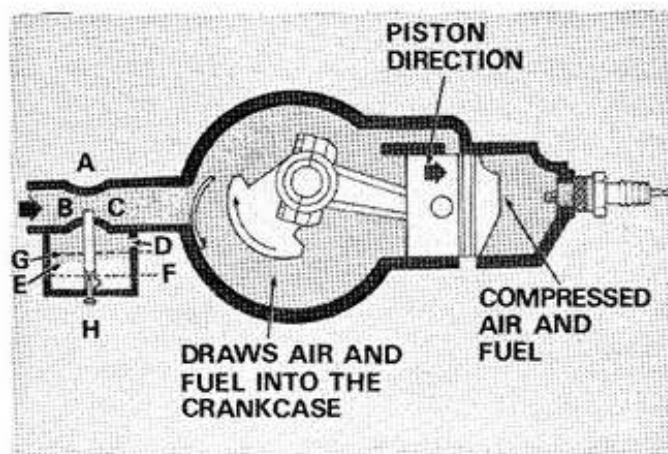

Figure 22. Carburetor Fuel And Air Mix.
The forward movement of the piston draws air through the carburetor like a pump. (See Figure 22.) The top of the piston compresses fuel and air in the cylinder, while the partial vacuum created in the crankcase draws fuel and air from the carburetor. If the engine in this illustration were to be operated at 2000 RPM, the bottom of the piston would be drawing fuel and air into the crankcase at 2,000 strokes per minute. This would yield a ratio of a set volume of air times 2,000, (the set volume would be determined by the diameter of the bore and the stroke of the piston). This set volume of air (B), moving through a large opening at the beginning of the carburetor, reaches a narrowed portion in the carburetor throat which is called a venturi (A). The function of the venturi is to cause a drop in